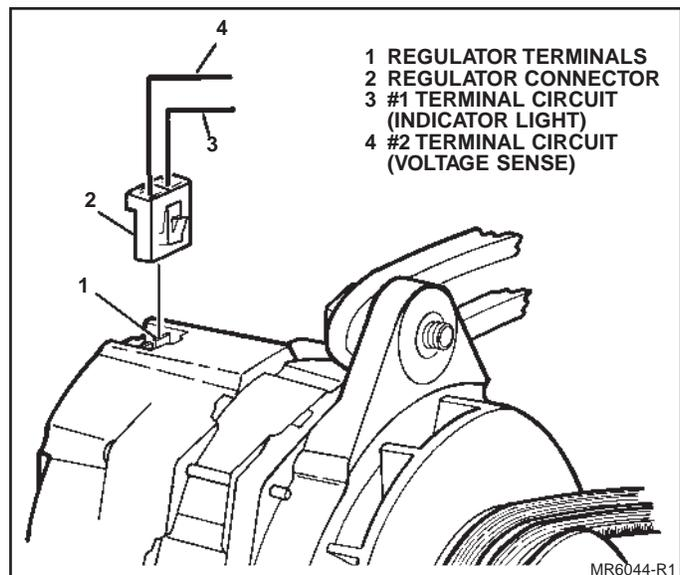

Figure 45. Regulator Connector (3-Wire Systems)
- For 3-wire systems only, regulator connector to regulator terminals (Fig. 45).